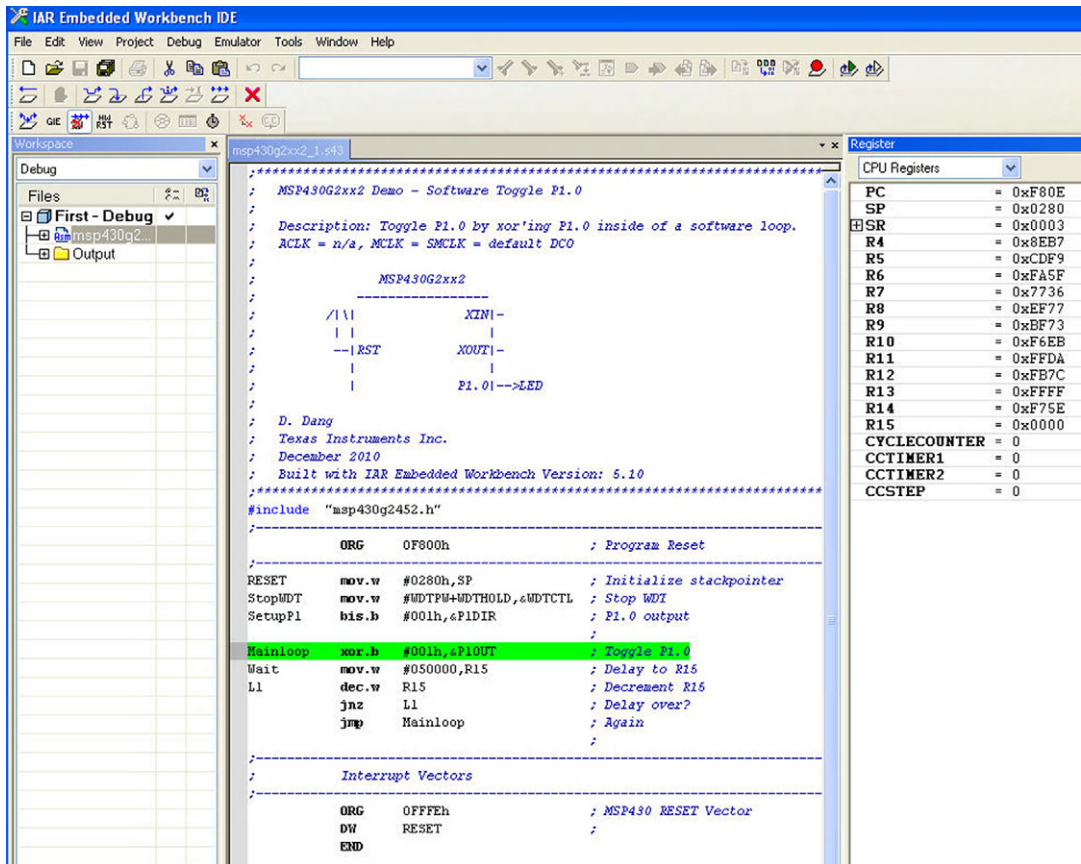

Figure 11.8
Now let's take a look at some of the internal microcontroller values. Pull down the "View" menu and choose "Registers". At the right-hand side of the screen will be a window showing registers R0 (PC) through R15 (Figure 11.8).